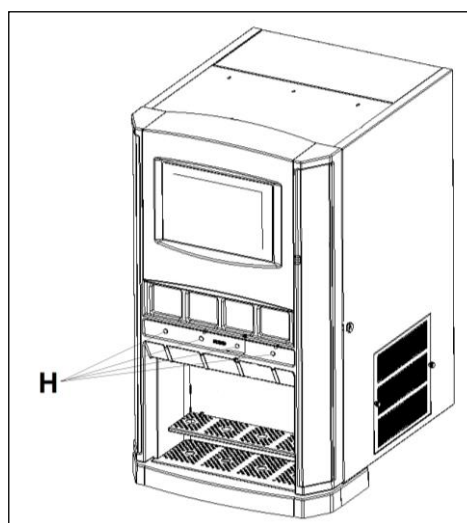

Fig. 9
- **D**ispense water added with sanitizing product from all four supply circuits by pressing the corresponding button H (Fig. 9) one at a time until the sanitation of the circuit is completed.